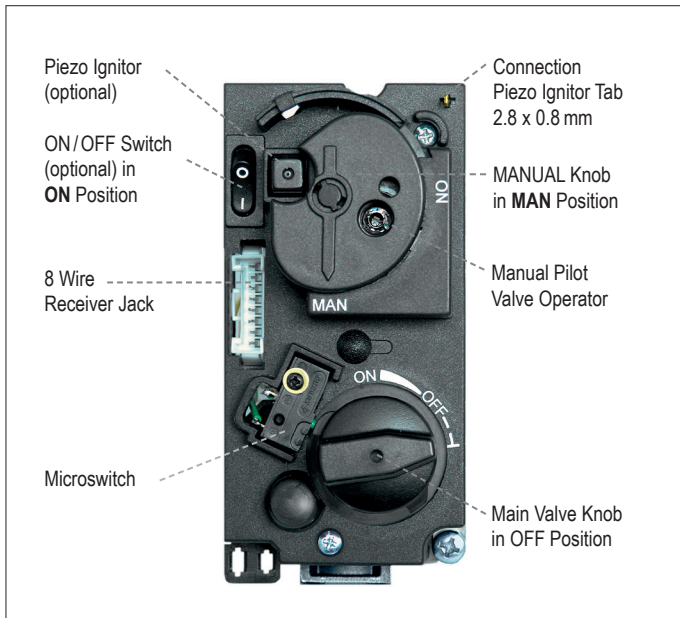

Figure 18: Combination Gas Control: Cover
5. Wait five (5) minutes to clear out any gas. Verify that no gas is in the area around the appliance, including near the floor. **If you detect gas STOP! Follow “WHAT TO DO IF YOU SMELL GAS” in the safety information on page 2.** If no gas is present, proceed to step 6.
6. Place **ON/OFF** switch (if equipped) in **I (ON)** position.
8. Fully push down manual pilot valve operator and hold in, to start pilot gas flow (see figure 18, page 10).